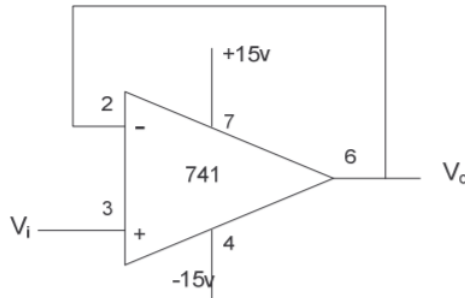

Figure 3-6 Voltage Follower
- In the circuit of Figure 3-6, what is the relationship between V_o and V_i ?